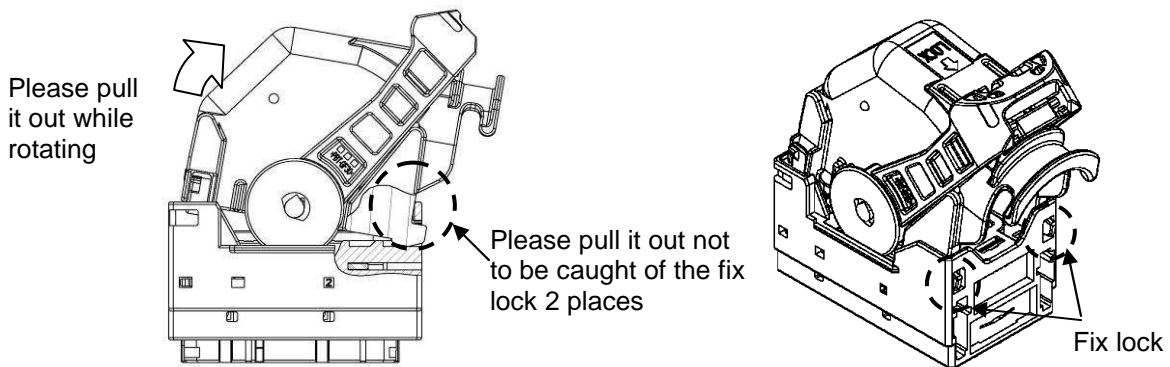

Fig.26
② After unlock the cover from the female connector, turn the cover to direction of the fig.26 arrow that cover fix lock don't catch female connector.